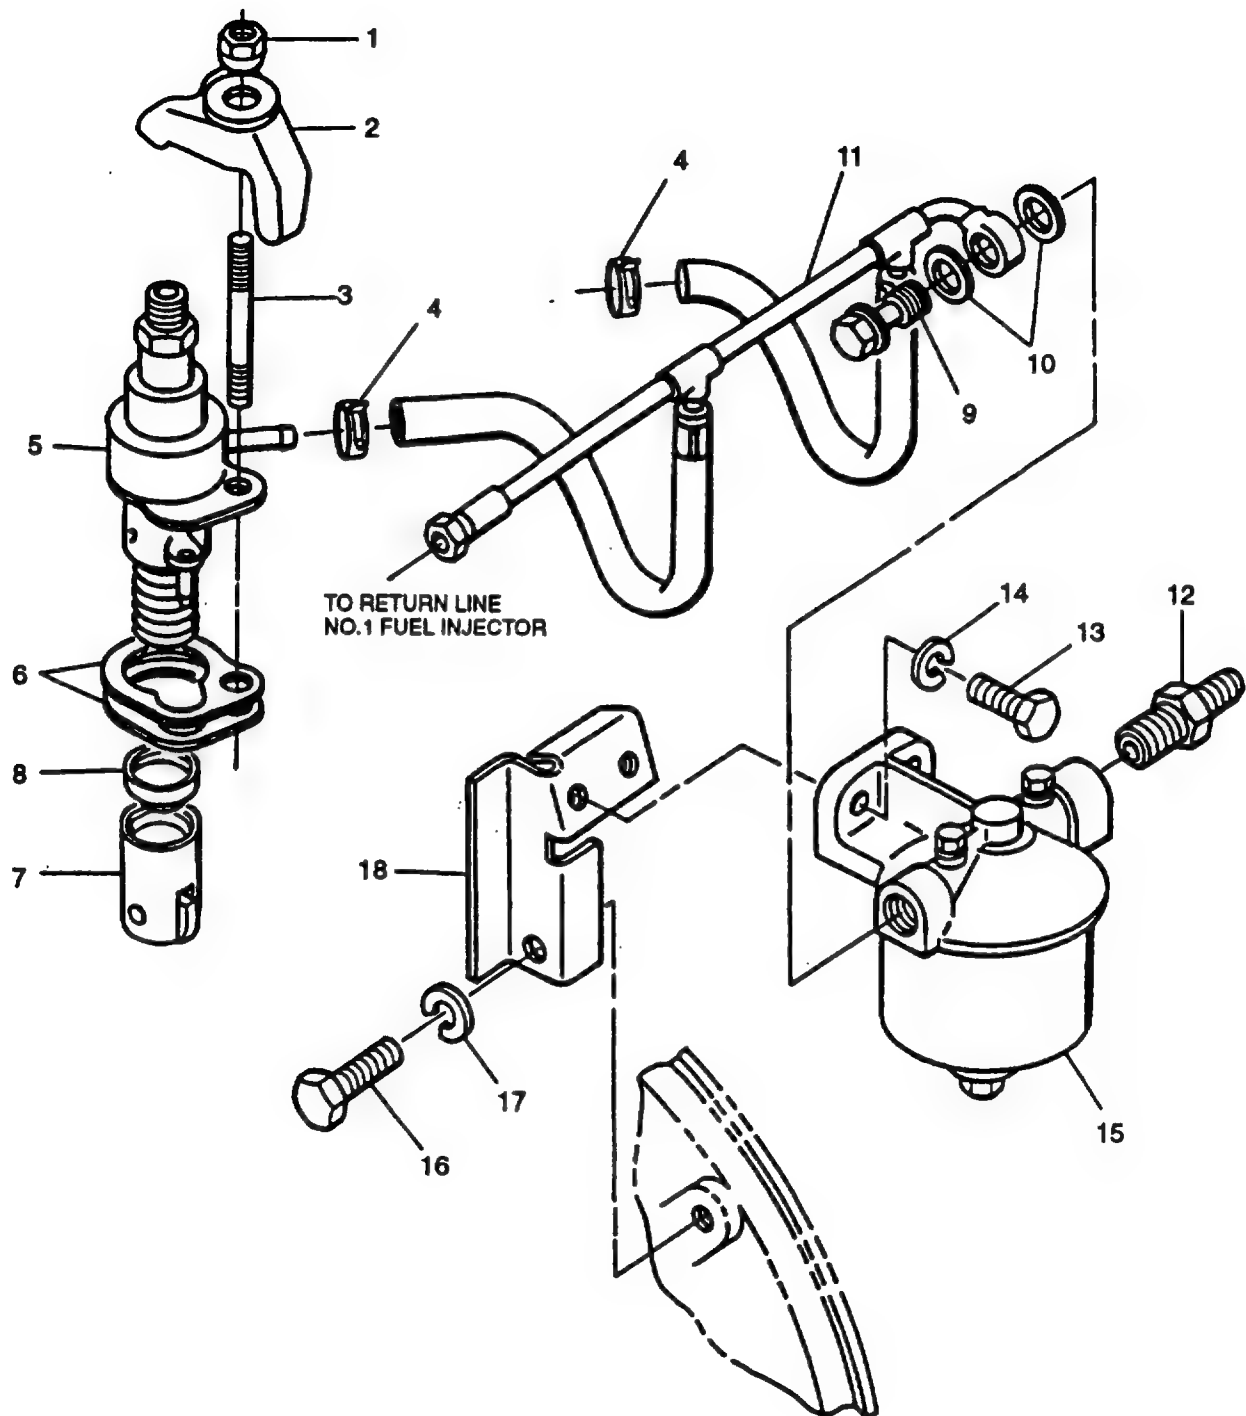
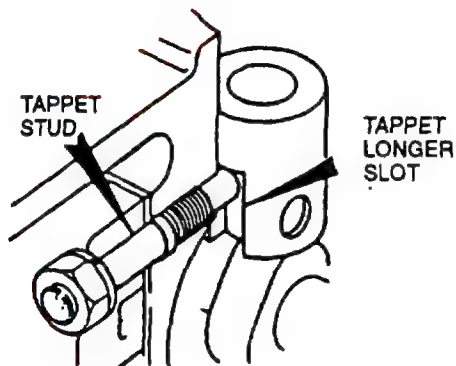

FIGURE 3-7. Fuel Injection Pump, Fuel Filter, and Supply Lines
FIGURE 3-8. Fuel Pump Tappet and Stud
- a. Loosen clamp (4, FIGURE 3-7) and disconnect fuel supply line (11) from fuel injector pump (5).
- c. Remove fuel injector pipe between pump (5), FIGURE 3-7 and fuel injector, refer to paragraph 3-18.
- e. Remove nut (1) and damp (2) securing fuel injection pump (5)
- c. If tappet (7, **FIGURE 3-7**) and thrust cup (8) were removed, install them as follows:
- (1) Tappet is installed in crankcase using long nosed pliers held open against top inside edge of tappet recess.
- (2) Submerge tappet in clean engine lubricating oil (MIL-L-2104).
- (3) Insert tappet in crankcase with longer slot facing outward to ensure it is correctly located over tappet stud, refer to **FIGURE 3-8**. Install thrust cup (8, **FIGURE 3-7**).
- g. If removed, install stud (3, FIGURE 3-7).
- h. Install correct original shim pack (6) on fuel pump (5).
(1) Do not remove or add to original shims installed between pump flange and steel plate.
(2) Use extreme care to ensure that individual shim packs are installed between each fuel pump plate and crankcase and that they are retained with their original respective cylinder.
(3) Shims are available in three sizes and are color coded, refer to TABLE 3-3
- a. Loosen clamps (4 **FIGURE 3-7**) and disconnect supply hoses of fuel line (11) from fuel injection pumps (5).
- b. Disconnect fuel return hose from fuel supply line (11).
- c. Remove swivel union plug (9) securing fuel line (11) to fuel filter (15); remove fuel line (11) and two seals (10). Discard seals (10)
- b. Connect fuel line (11. **FIGURE 3-7**) to fuel filter (15) using two new seals (10) and swivel union plug (9).
- c. Connect supply line (11) hoses to fuel injection pumps (5) and secure with clamps (4).
- d. Connect fuel return line to supply line (11).